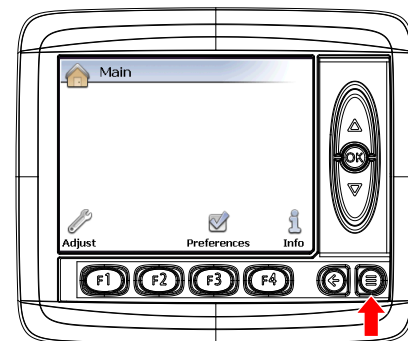

Figure 74. Menu Screen
1. Press the **Menu button** to view the **Menu screen** on the digital display (Figure 74).